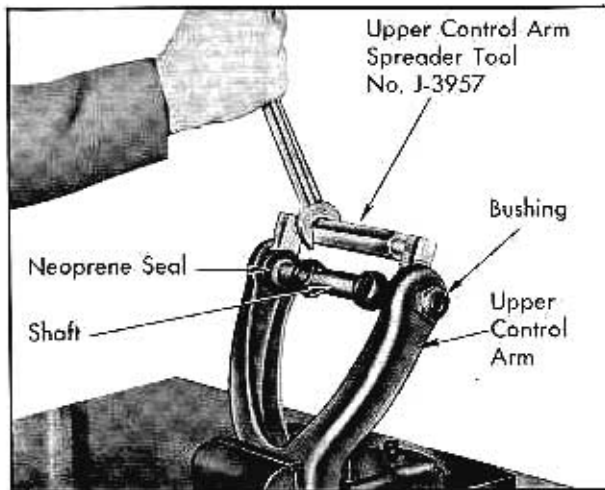

Fig. 6-21 Spreading Upper Control Arm
4. Install Upper Control Arm Spreader, Tool No. J-3957, between arms as shown in Fig. 6-21 and tighten finger tight. Then, using a wrench, tighten tool two additional flats.